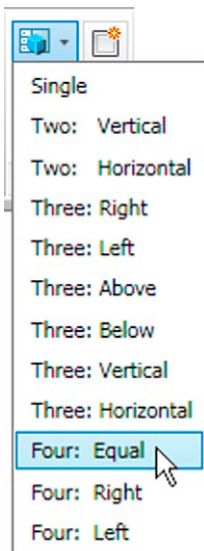
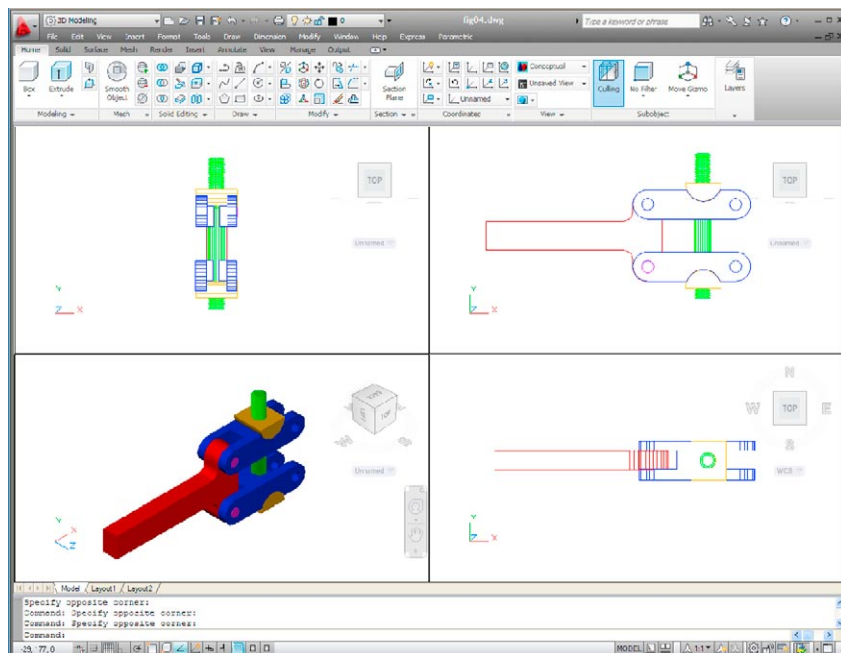

Fig. 13.3 Selecting **Four: Equal** from the **View/Viewports** popup list
Fig. 13.4 The **Four: Equal** viewports layout
In the **3D Modeling** workspace *click* **New** in the **View/Viewports** panel. From the popup list which appears (Fig. 13.3) select **Four: Equal**. The **Four: Equal** viewports layout appears (Fig. 13.4).
In Fig. 13.4 a simple 3D model has been constructed in the **Four: Equal** viewport layout. It will be seen that each viewport has a different view of the 3D model. Top right is an **isometric** view. Bottom right is a view from the **right** of the model. Bottom left is a view from the **left** of the model.
1. Open a **Four Equal** viewport setting from the **New** popup list in the **View/Viewports** panel (Fig. 13.3).
1. Open a **Four: Left** viewport layout from the **Views/Viewports** popup list (Fig. 13.3).
1. Open the **Three: Right** viewport layout from the **View/Viewports** popup list (Fig. 13.3).